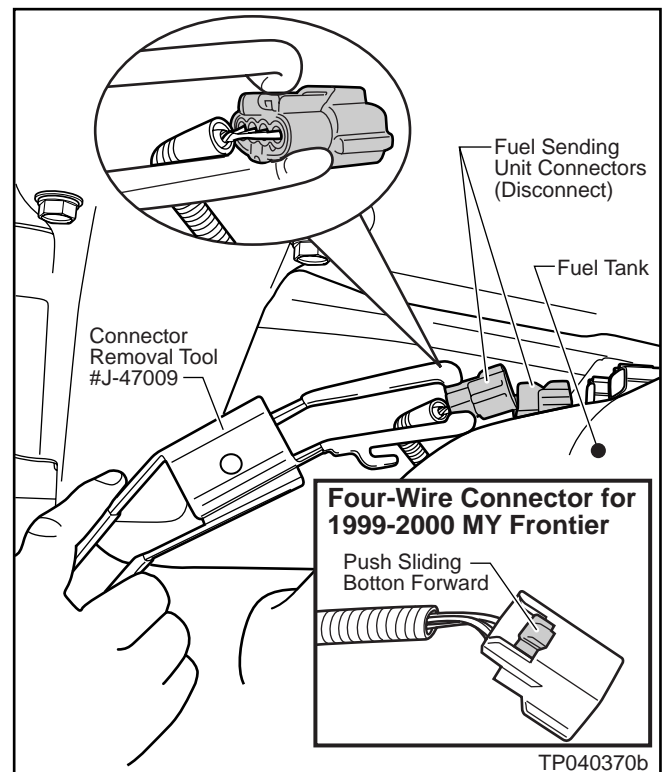

Figure 3
2. Use the Connector Removal Tool #J-47009 to disconnect the Fuel Sending Unit Connectors (4-wire connector and 2-wire connector). See Figure 3.
- To release this connector, push forward on the Sliding Button (on top of the connector). See Figure 3.